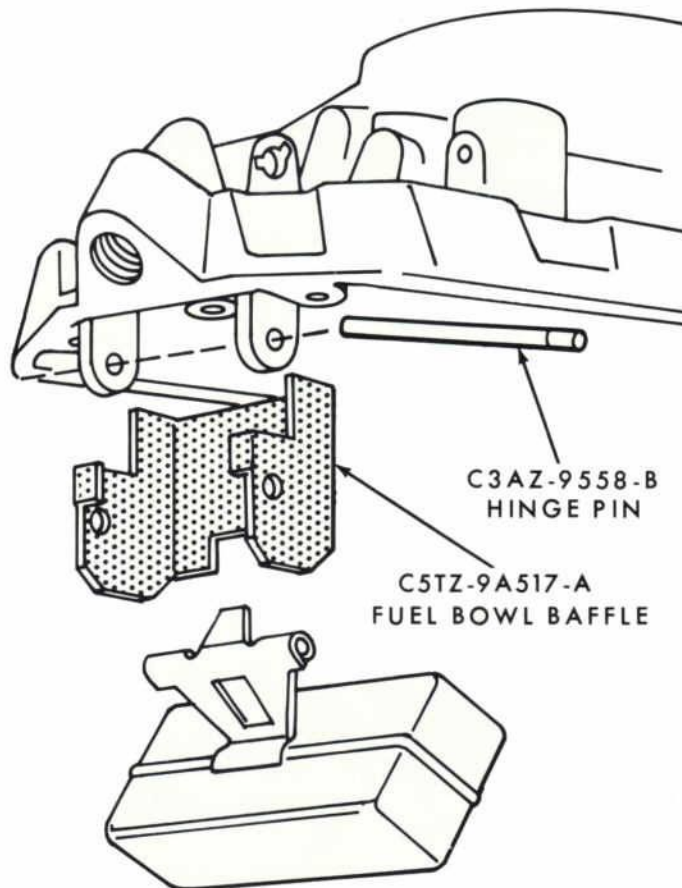
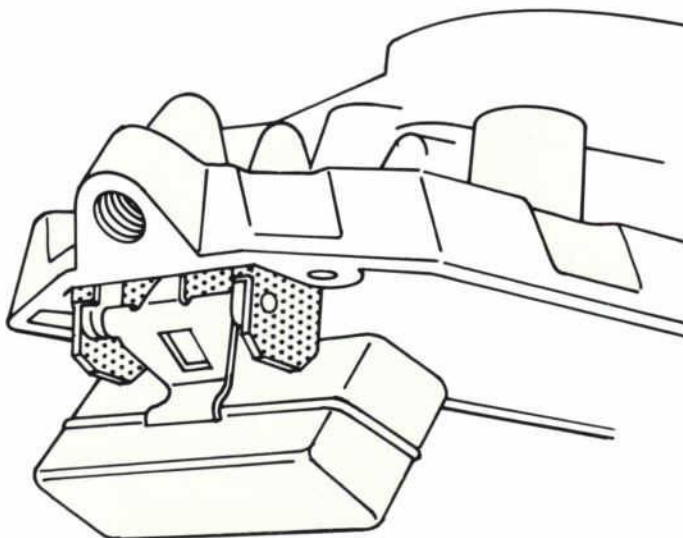

FIG. 1
FIG. 2
- Install an anti-foam baffle screen (C5TZ9A517-A) and hinge pin (C3AZ9558-B) in the carburetor if unit is not so equipped. See Fig. 1 and Fig. 2;